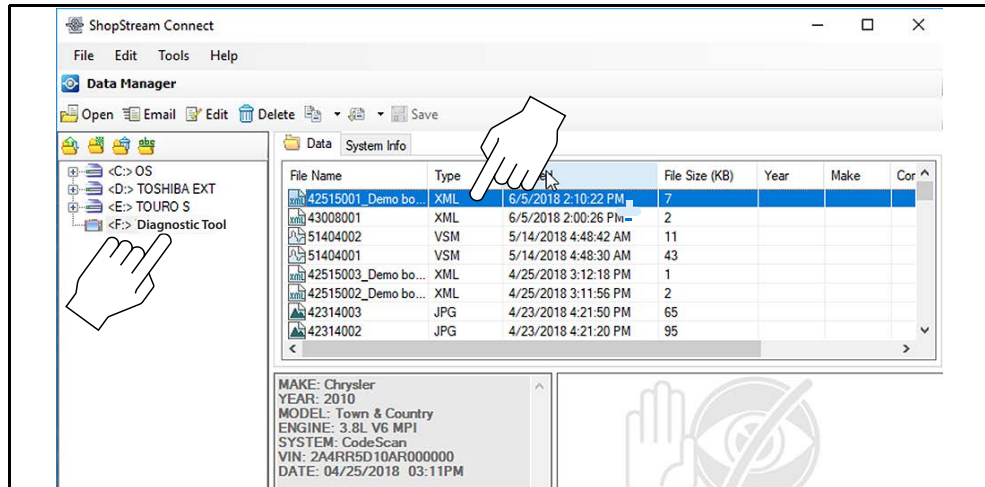
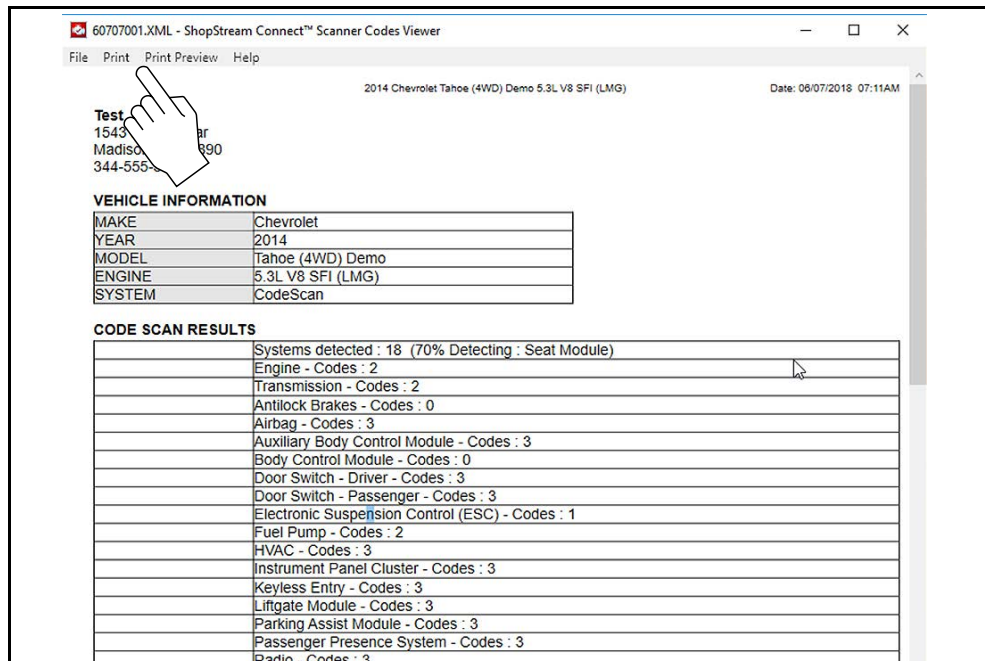

Figure 10-5
Figure 10-6
1. Double-click the code scan .XML file from the file list to open the report (Figure 10-5) in the Code Scan Viewer (Figure 10-6).
2. Select **Print** or **Print Preview** from the Code Scan Viewer menu to print or preview the report (Figure 10-6).